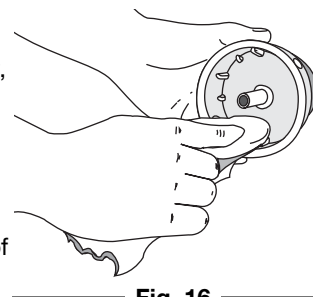

Fig. 16
4. Use a clean cloth to clean the the inner reel, spring, shaft and inner surface of the outer spool (Fig. 16).